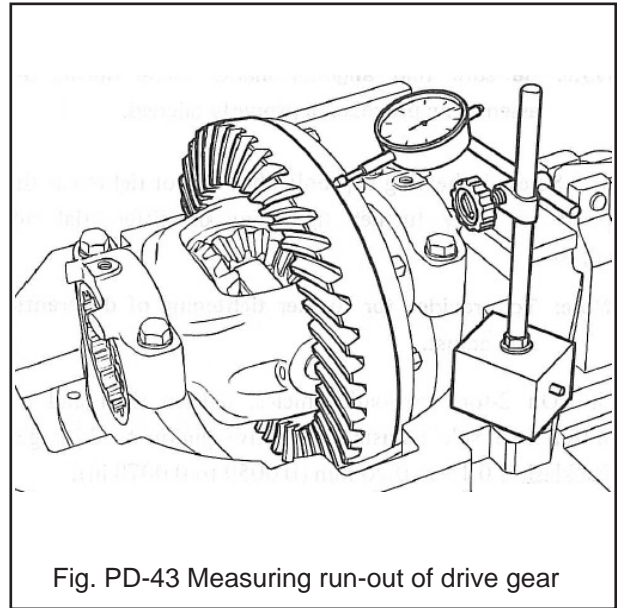

Fig. PD-43 Measuring run-out of drive gear
8. Measure surface run-out of drive gear by means of a dial gauge with its indicating finger resting against back of gear being farthest from gear center. (See Fig. PD 43) Maximum allowable run-out: